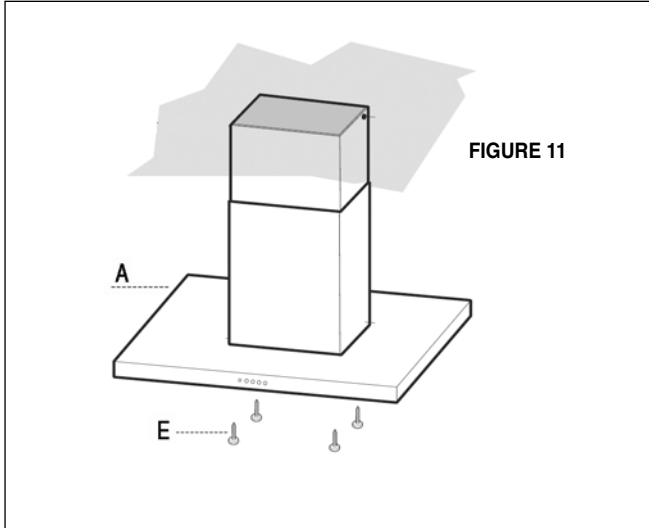

FIGURE 11
4. From below, attach the CANOPY SECTION (A in FIGURE 11) to the assembled chimney support using the four bolts provided (E in FIGURE 11).